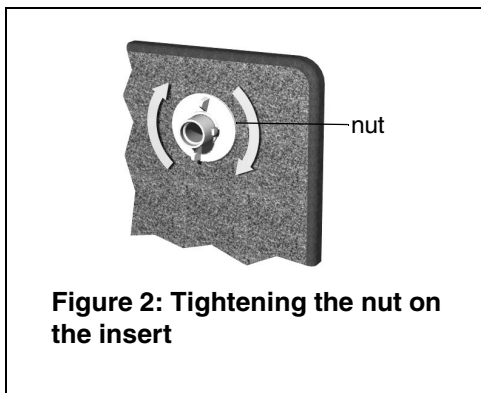

Figure 2: Tightening the nut on the insert
b) On the back side of the boards, secure each insert with an insert nut by twisting the nut onto the insert by hand (See Figure 2). Place the provided board labels on each board to identify the left, center, and right panel boards. This completes the assembly of the boards.